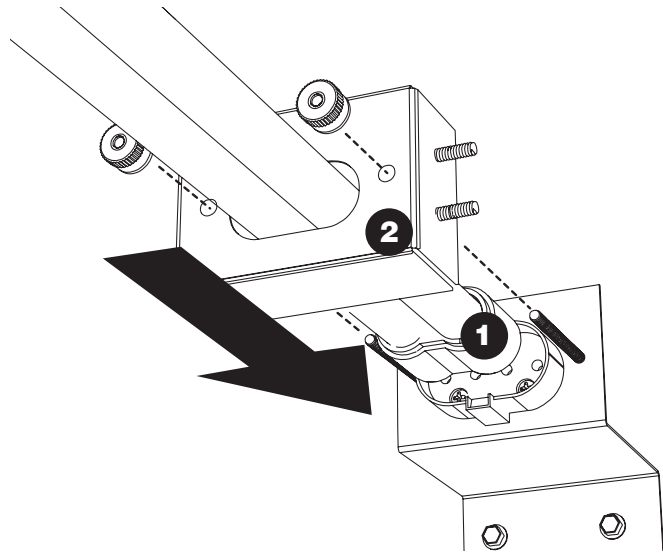

Fig. 7 Press lamp into place then attach lamp cover.
6. Insert new lamp and refasten lamp support. Be sure to clean lamp of dust and fingerprints prior to installation. (See Fig. 7.)